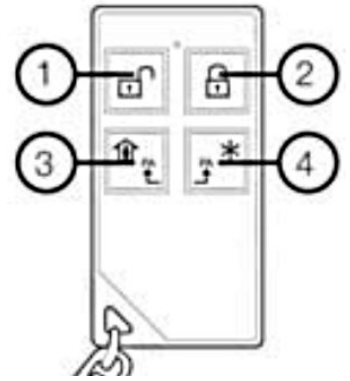

Figure 31. Keyfob Crow FW2-RMT-8F
2. Keyfob – delete the previous registration by pressing the ② and ③ buttons at the same time. Registration – press ③ and ④ buttons at the same time (see Figure 31);